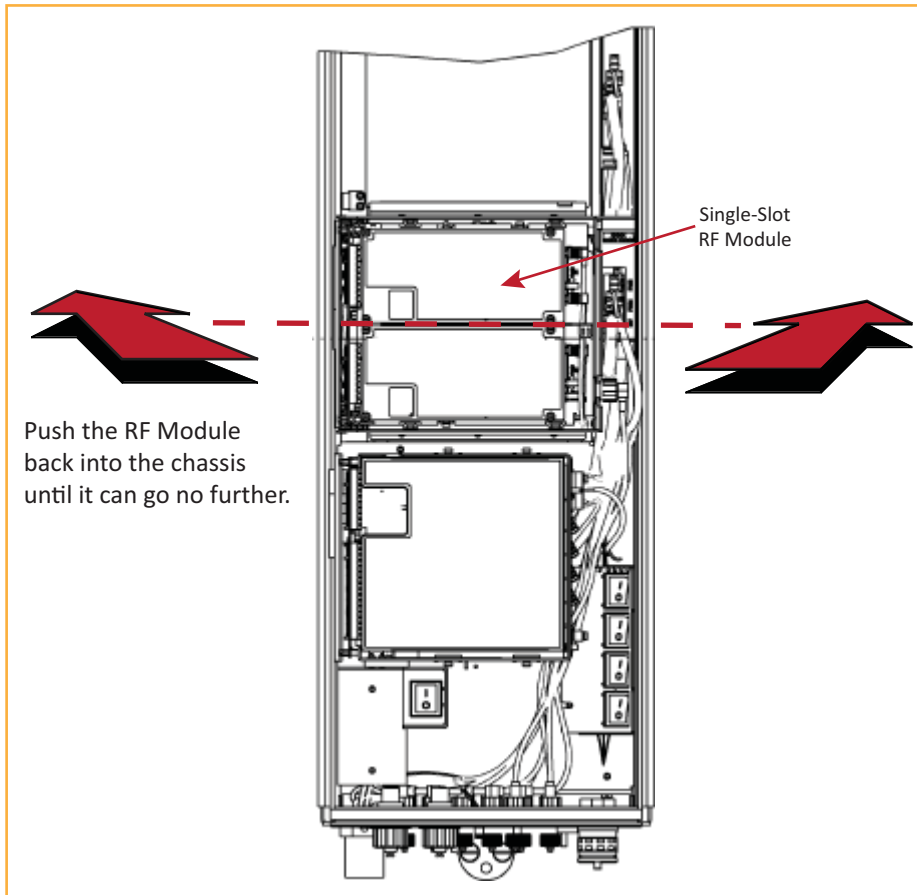

Figure 15. Seating a Single-Bay RF Module
- For Single-Bay RF Modules, see Figure 15 on page 31.